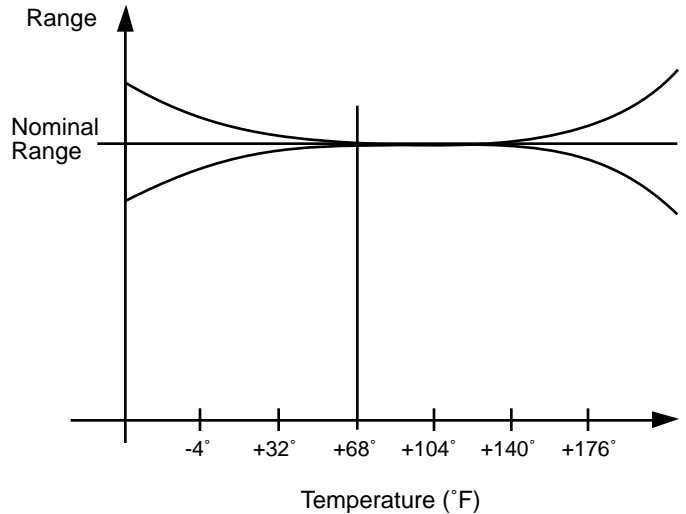

Figure 2
**Temperature Drift:** The temperature drift indicates the change of the switching point caused by ambient temperature variations within the range of -13°F to +158°F. The temperature of the measuring plate does not influence the switching point. The switching point at -13°F to +158°F may vary up to 10% compared to the point measured at +68°F. (See Figure 2.)